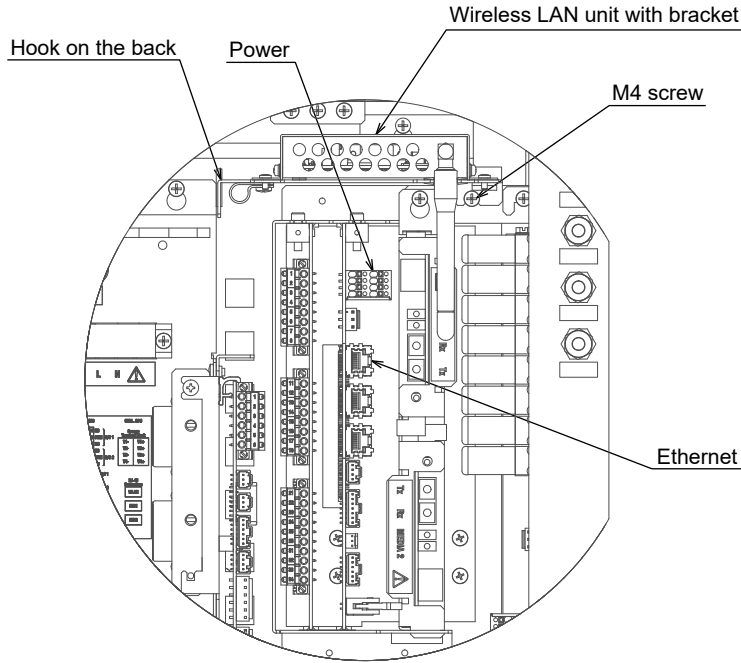

Figure 2.49
- (3) With the cables wired to the product according to step (2) above, attach the product to the GC8000 main unit. Position the product as shown in Figure 2.49 and secure it using the hooks and M4 screws on the GC8000 side.